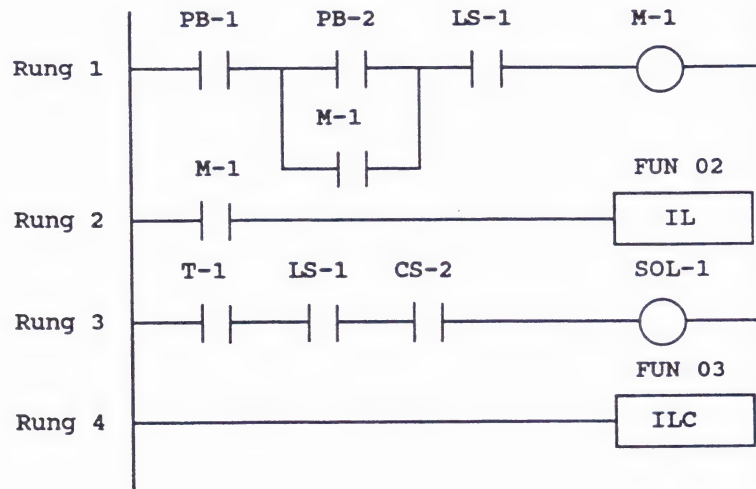

Figure 4.11 IL And ILC Statements
These functions signify an Interlock (IL) and Interlock Clear (ILC) instruction respectively. By using the IL and ILC functions, the operator can mimic the original hardwire style of machine control without needing to use an external electromechanical interlock (see Figure 4.11 below).
In Figure 4.11, note that the M-1 contact is the relay "permissive". If this contact equals a "1" (ON) condition, the logic in Rung 3 will be performed. If however, the contact equals a "0" (OFF) condition, the logic will not be performed. In other words, the IL instruction will turn ON all of the output coils between the IL and ILC instructions if the conditions indicated before IL are met, and will turn OFF the output coils if the conditions are not met.